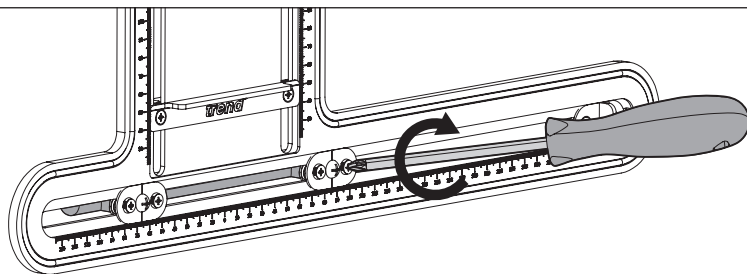

Fig. 14a
- Move one Drill Guide to the 0mm/0" position (Fig. 14a).